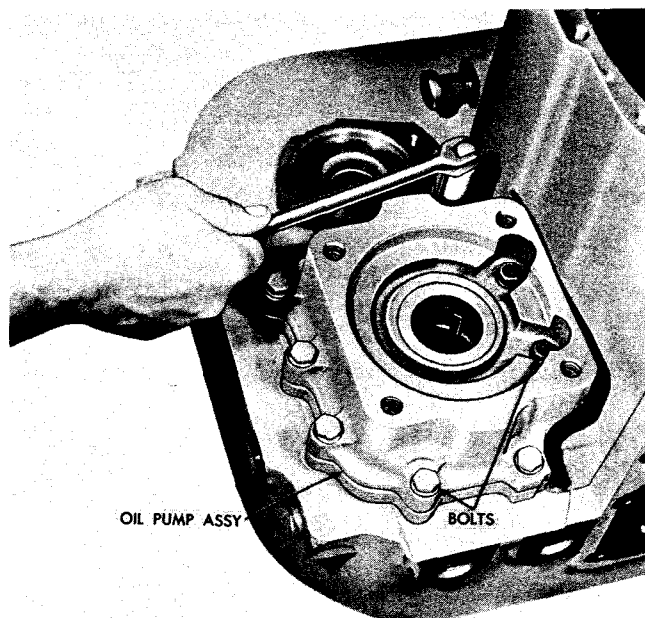

Fig. V-30. Removing oil pump assembly
(1) Remove nine bolts and nine lock washers from the oil pump assembly (fig. V-30).
(2) Remove the oil pump assembly and gasket.